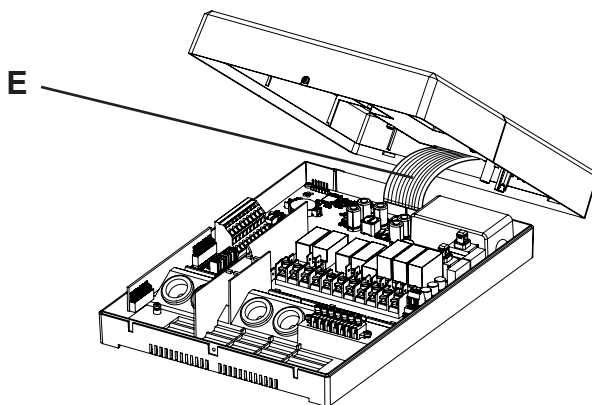

Fig.3 Unplug ribbon cable
3. Pull gently on ribbon cable **E** to release it from the connection socket (**Fig.3**).